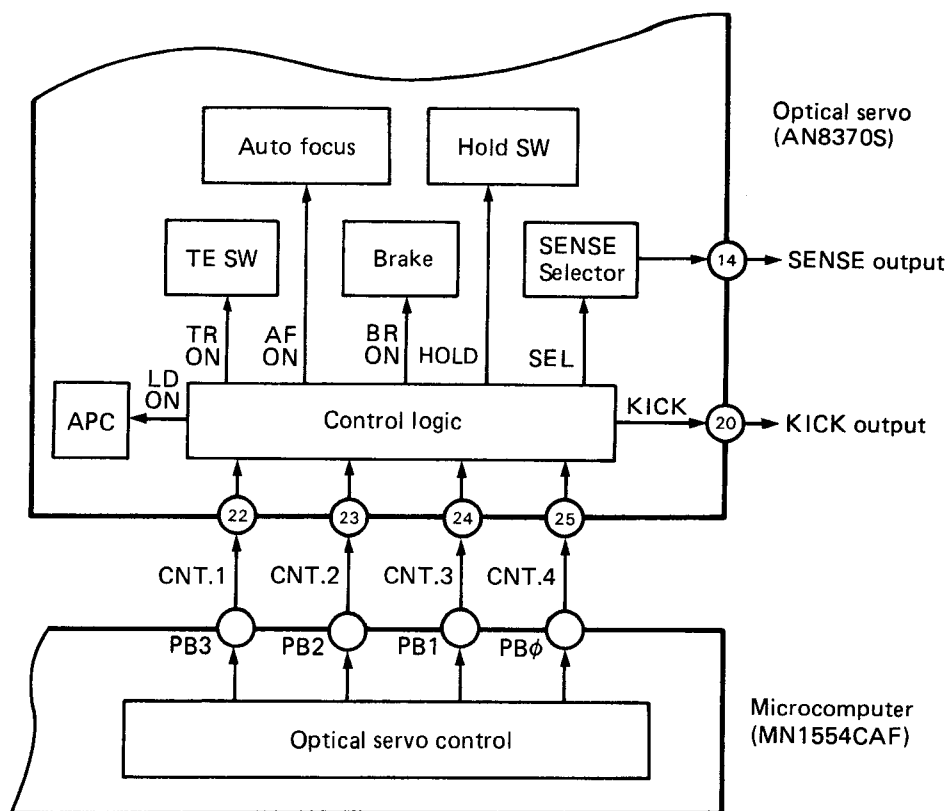

Fig. 4-2 Control Logic Circuit
(1) Control signals and their functions (See Fig. 4-2)